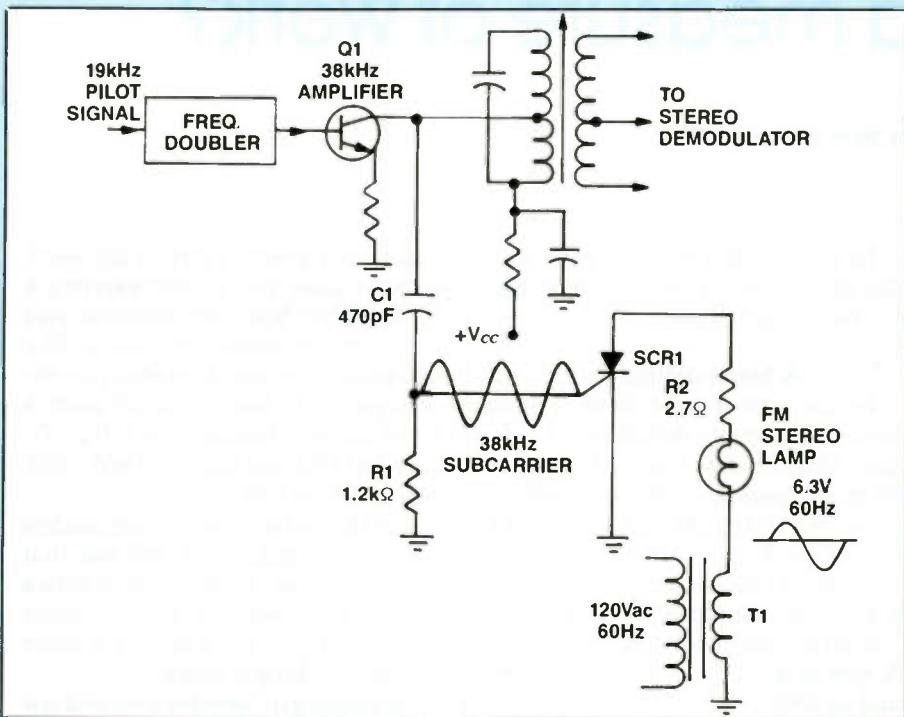

Figure 1
2. The circuit of Figure 1 was given in an article titled "Thyristors from A to Z" by Lambert C. Huneault. The article was in the February 1990 issue of ES&T. As explained in the article, if there is an internal (anode/cathode) short in the SCR and the FM stereo lamp will be: